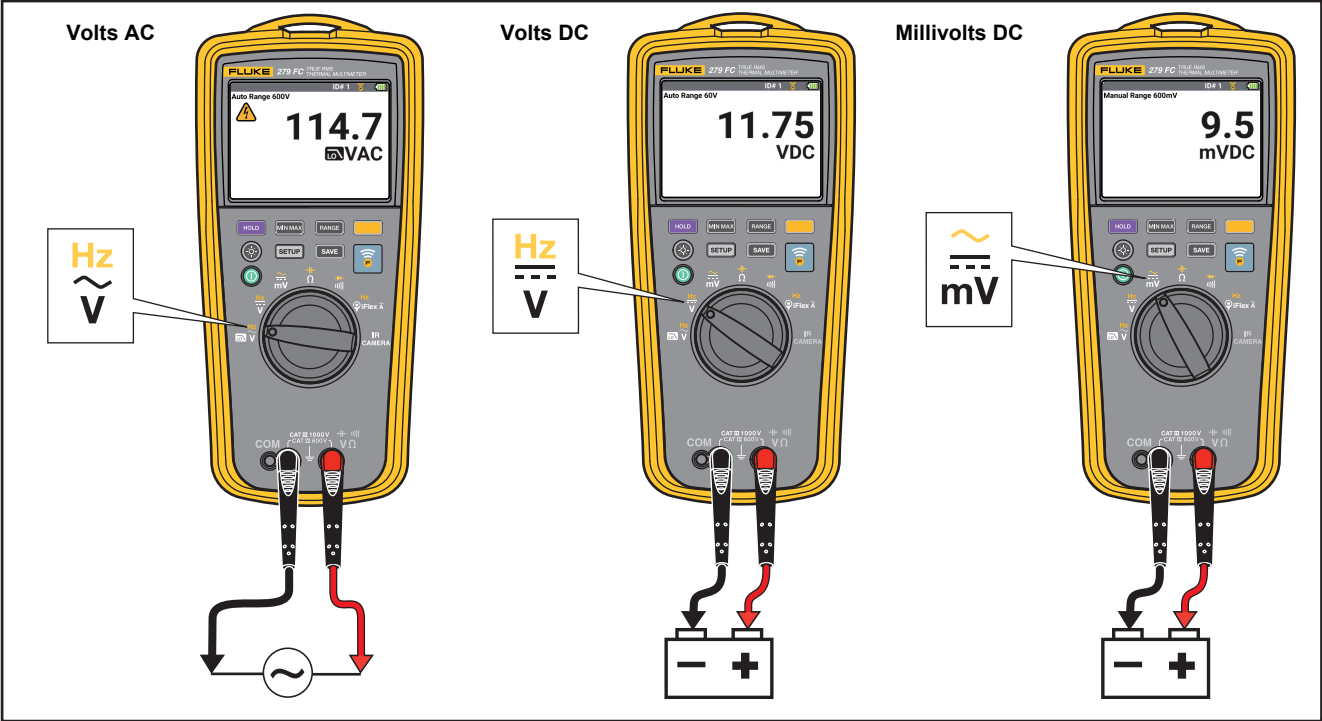

Figure 4. AC and DC Voltage Measurements
- AC and DC Voltage Measurements. See Figure 4.
1. Turn the rotary dial to  $\tilde{\text{mV}}$ . See Figure 4.